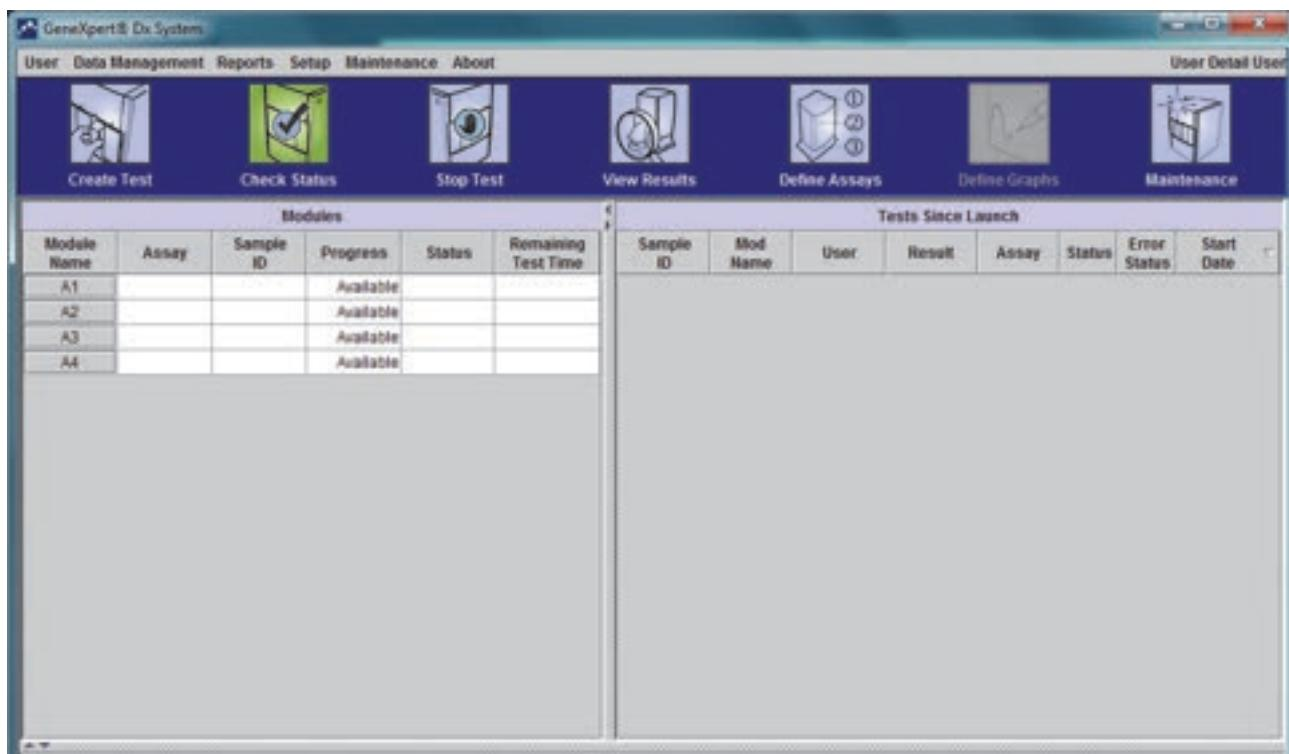

Figure 5-113. GeneXpert Dx Home Screen
1. In the GeneXpert Dx system Home screen, select the **Create Test** button. See Figure 5-113.